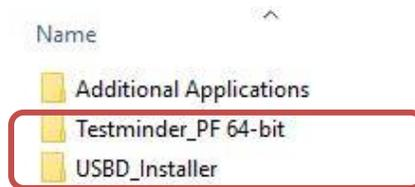

Figure 17 TestMinder Installer Folders
2. Browse the CD/USB provided with the tester and locate the folders with the installers as shown in (Figure 17).